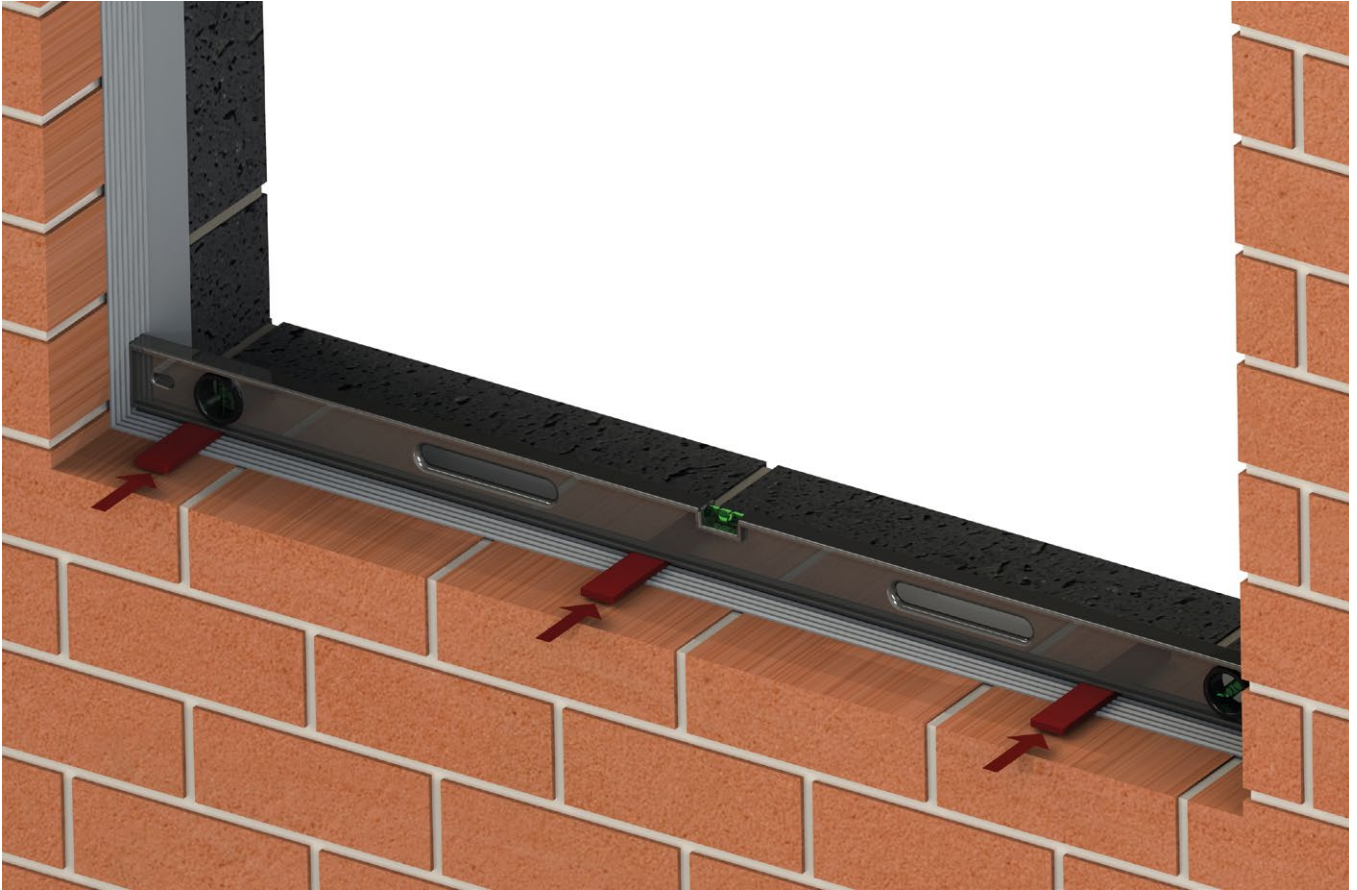

FIG 1
- ▶ 1.1. Place the correct frame packers spaced at a maximum of 500mm apart along the length of the opening to create a level, well supported platform for the track/ cill to sit. (Fig.1)